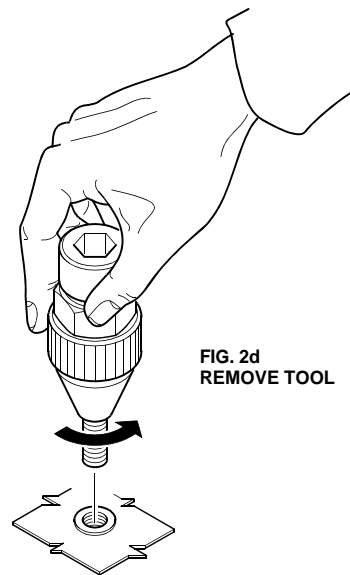

FIG. 2d
- (d) Remove the hand tool (Ref. Fig. 2d):
- (1) Install the canopy (Ref. AMM 52-10-01, Page Block 401).
- (2) Remove all equipment, materials and tools from the work area. Make sure that the work area is clean.